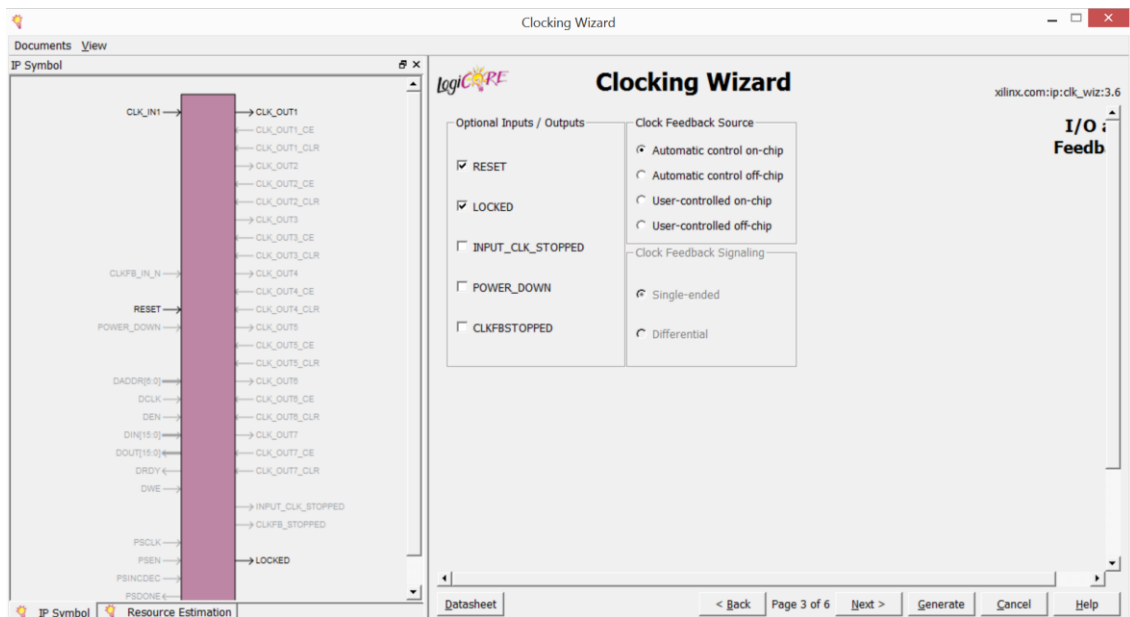

Figure 6-20
*Reset* and *Locked* features can be added to the design. Click on the check boxes to set them. *Reset* port is the input of the core while *Locked* is shown as output of the core in Figure 6-20. *Locked* output will be logic-1 when input and output clock signals are phase aligned.